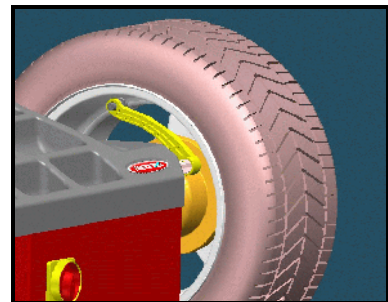

Fig. 31: Runout
6.4.3 Put the rod as shown in fig. 31 and turn slowly the wheel for 360°.